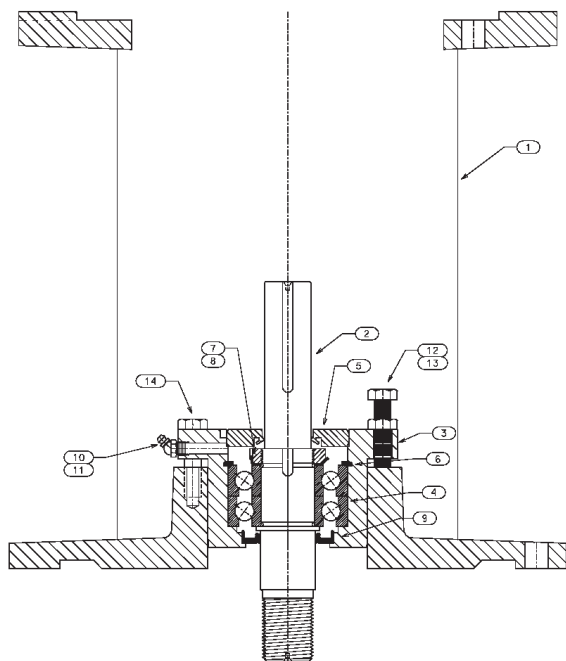

Figure 18 – Grease Lubricated Thrust Pot
2. Using the lifting lugs on the motor, carefully lower the motor onto to the motor stand of the thrust pot (See Figure 18) and align the bolt holes.
**NOTE:** Be sure the relief fitting (#11 in Figure 18) is clear of paint or any other obstructive material. Otherwise it will cause premature failure of the thrust pot and is not covered under warranty.